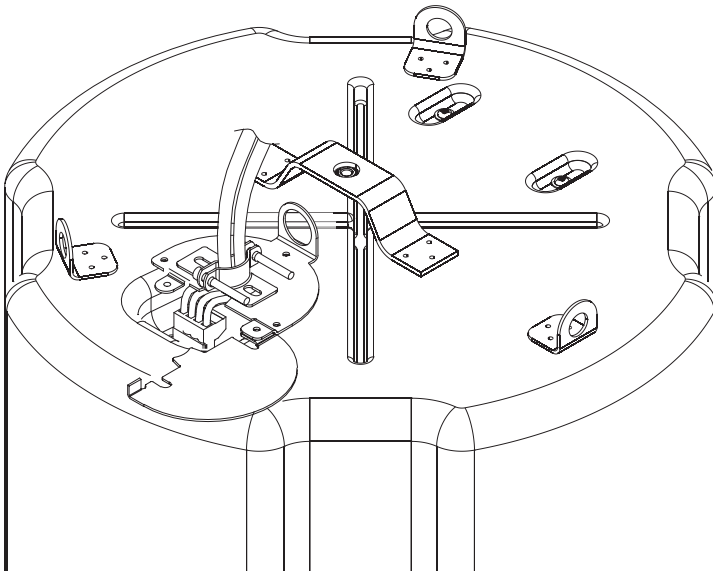

Figure 10: Secure Cable through Fitting
Step 4: Secure the Cable to the Speaker (Figure 10)
If plenum cable is used, slide the cable through the strain relief fitting on the terminal cover plate (Figure 10). Hold the strain relief fittings tight around the cable. Tighten the strain relief screws first, then the horizontal screw. In the cases of insulated speaker wire and plenum cable, it is often possible to provide acceptable strain relief force by simply tightening the strain relief screws onto the terminal cover plate.